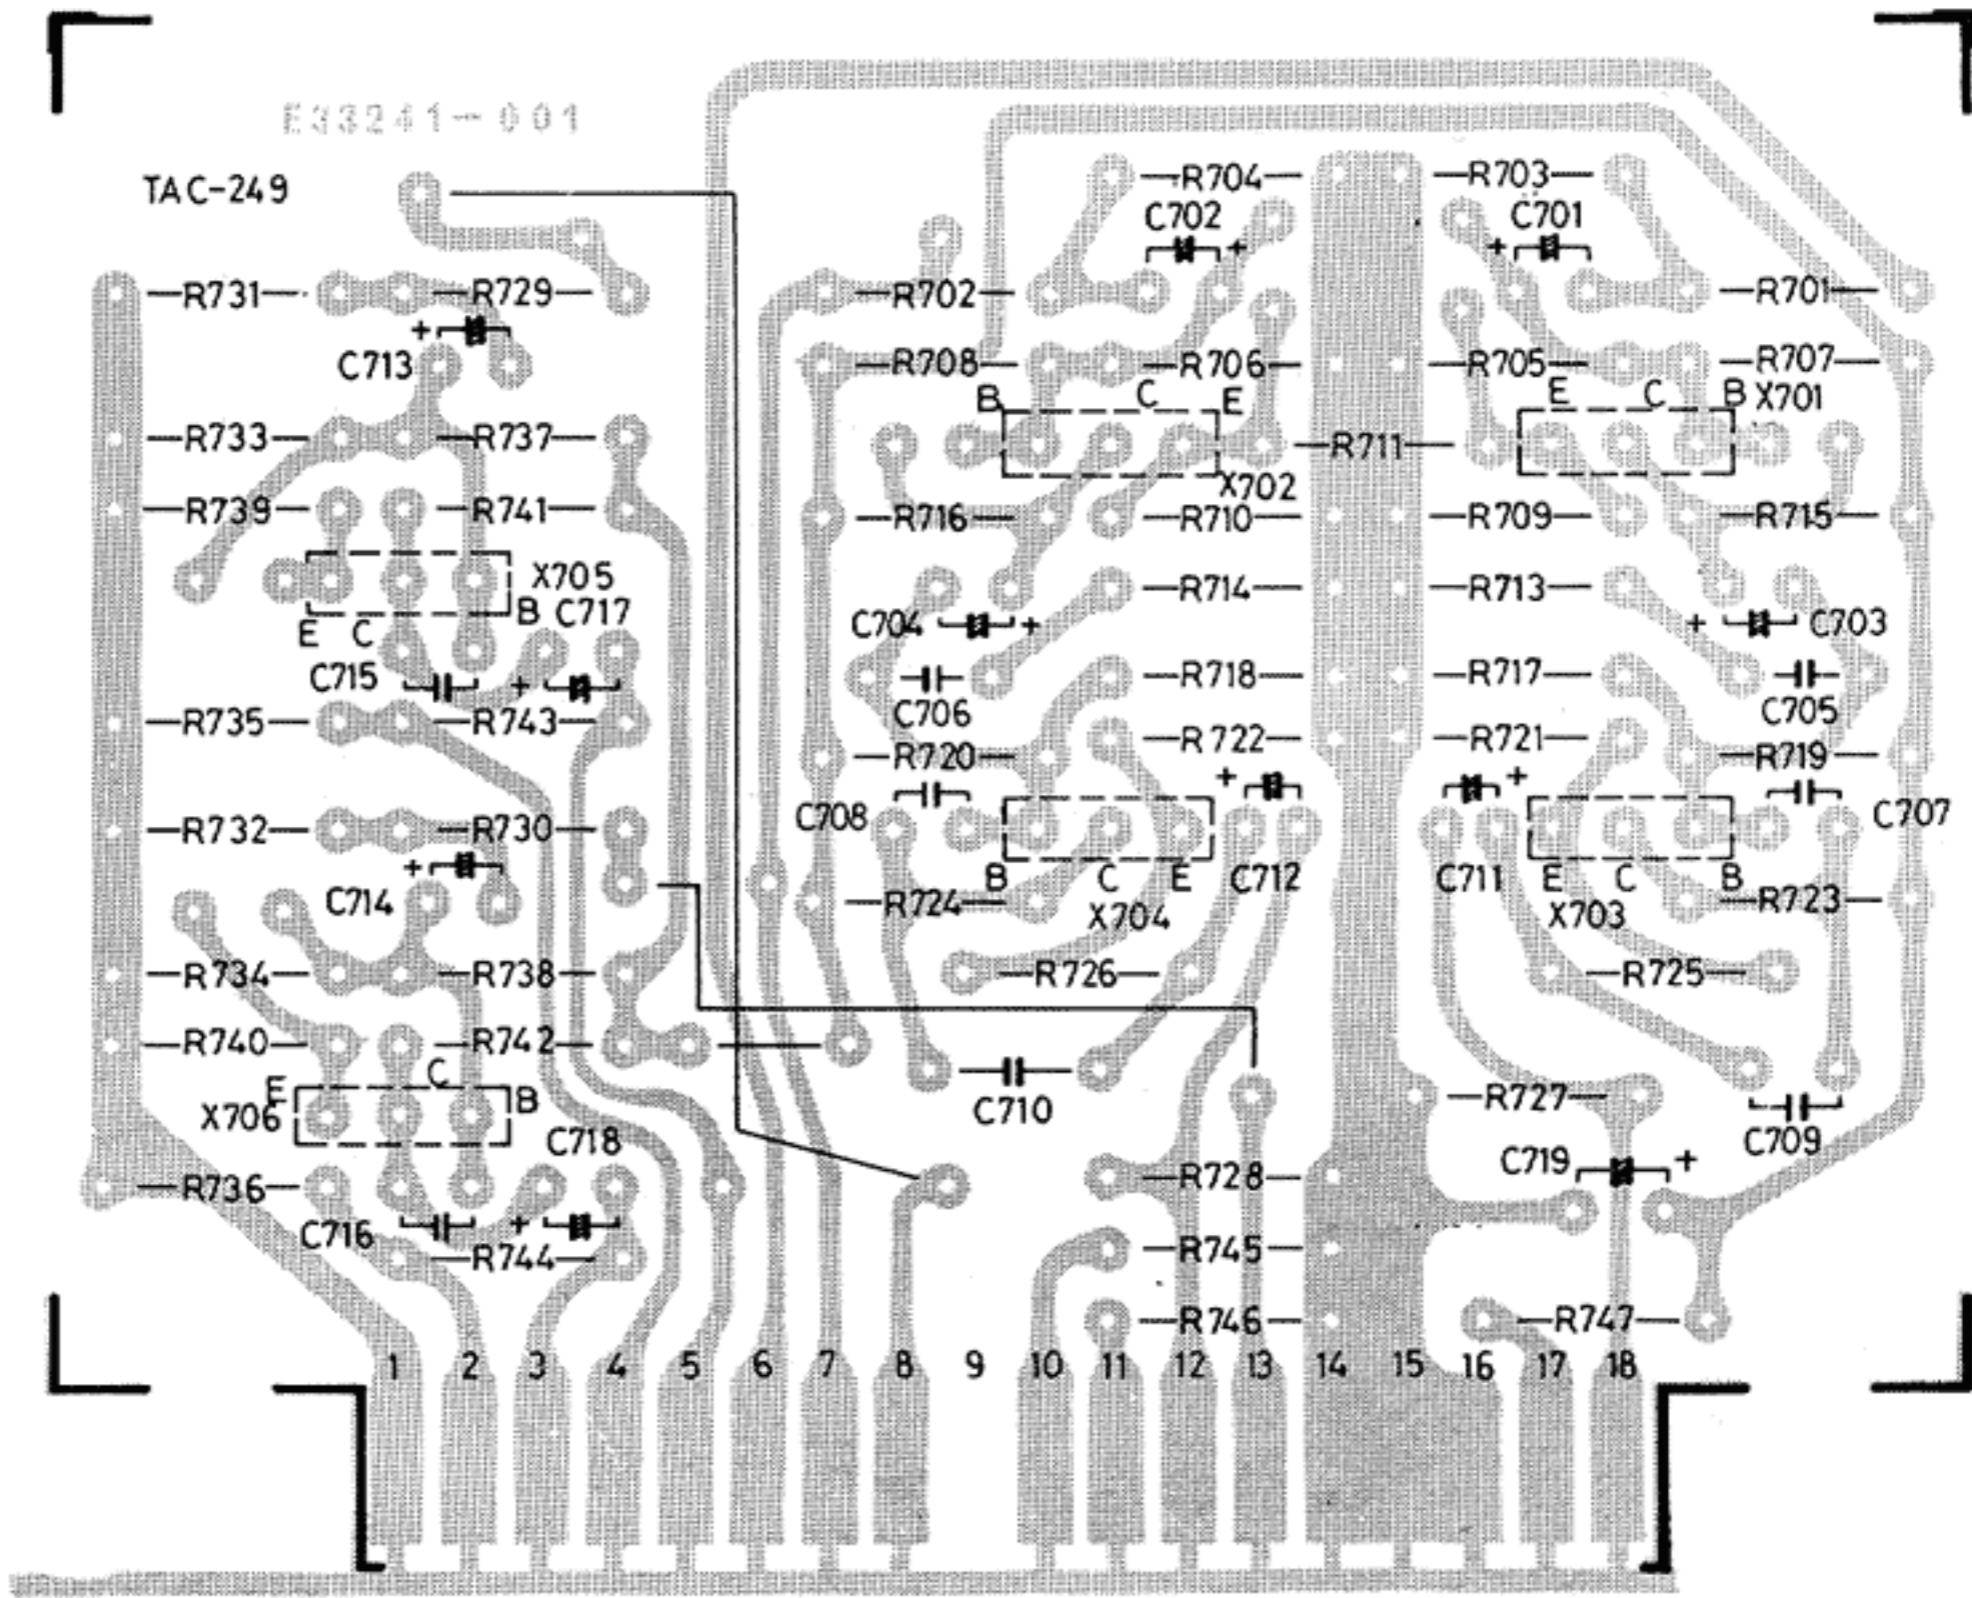

Fig. 10
**WIRE CONNECTION** (Fig. 10, 11)